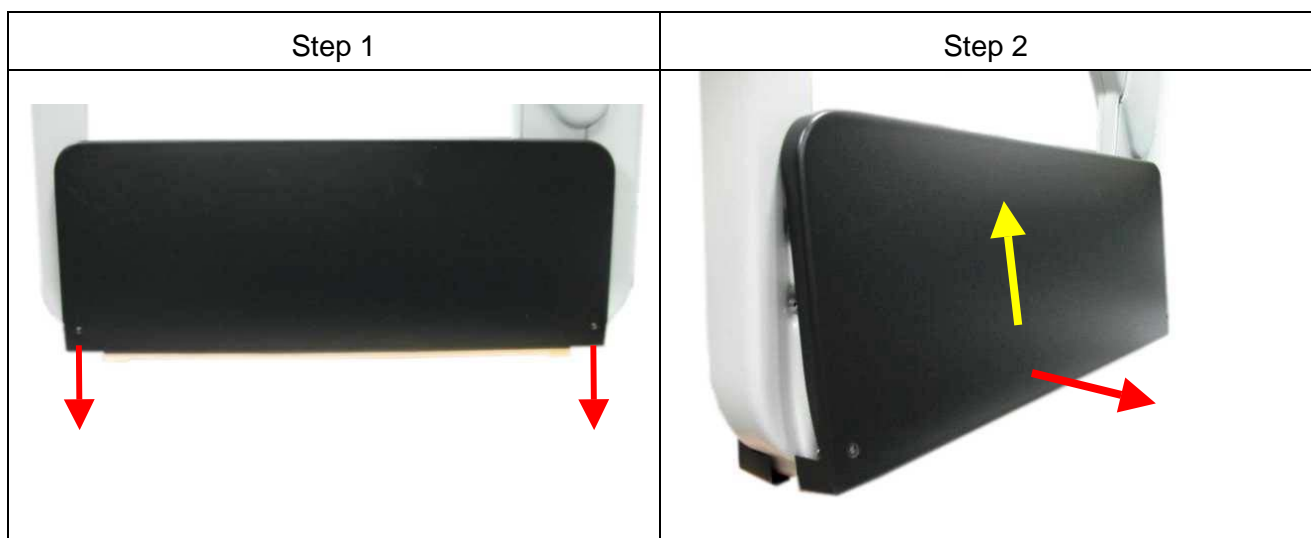

Fig. 3: Opening the antenna foot
2. After that the antenna has to be placed carefully again on the floor. Now you must remove the fastening screws (hexagon socket width A/F2,5) of the antenna foot cover and remove it upwards. Fig. 3